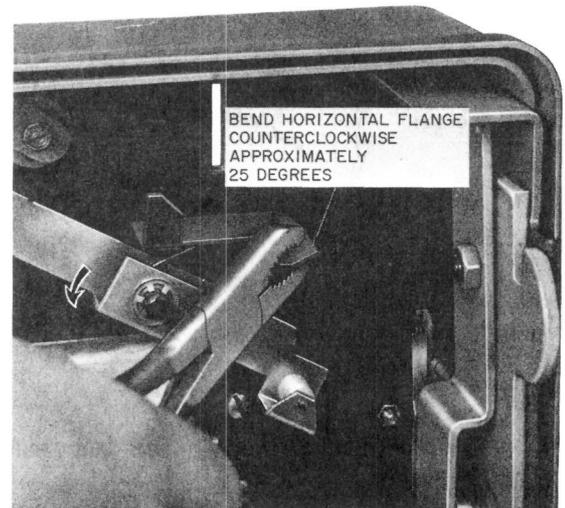

Fig. 49—Bending Chute Guide (Limit Stop)
5.42 If there is a clearance problem between chute and cover unit assembly on the 1-type set, bend the horizontal guide flange, located adjacent to the coin slot inside cover, as shown in Fig. 49.